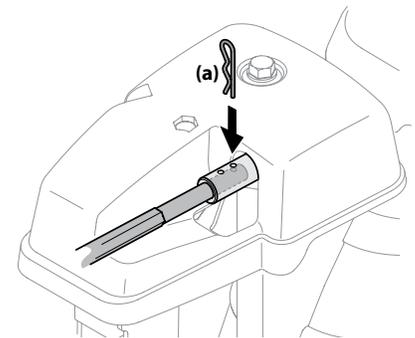

Figure 2-25
7. Push chute control rod toward control panel until hole in rod lines up with hole in chute control input closest to chute control head and insert hairpin clip (a) removed in Step 1. See Figure 2-25.